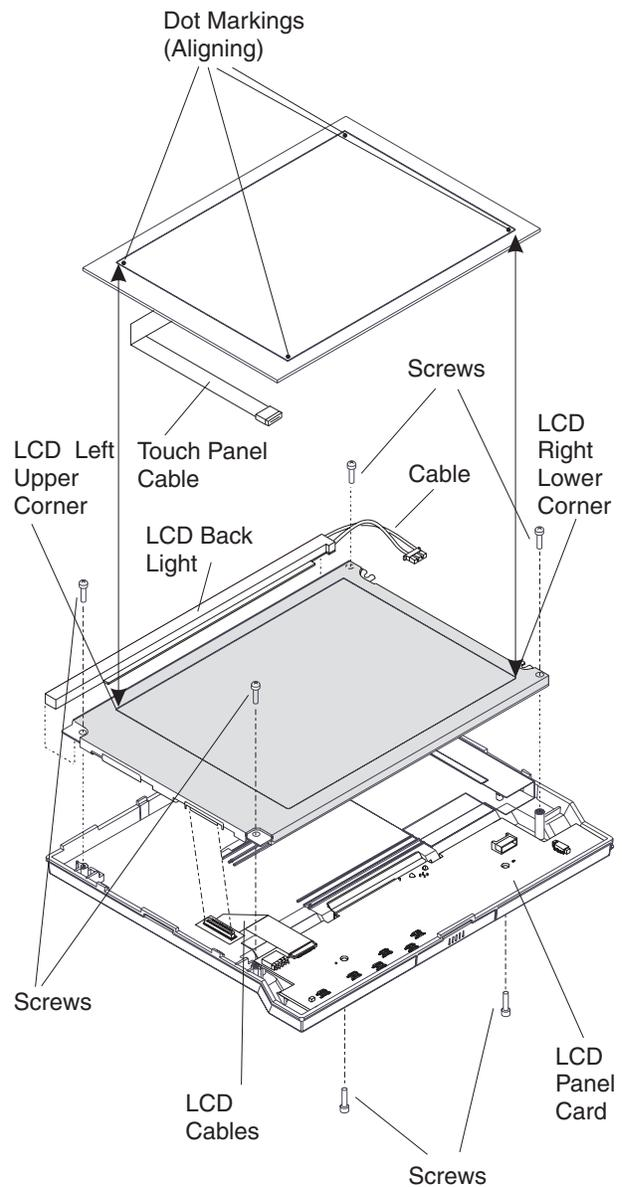

Figure 3-17. Removing the LCD module
- 3 Remove the four screws connecting the LCD module to the back cover. See Figure 3-17.
- Make sure that the touch panel scan area is adjusted to the LCD active area. See Figure 3-17.
- 1 Remove the LCD module assembly. See Figure 3-17 on page 3-16. cover.